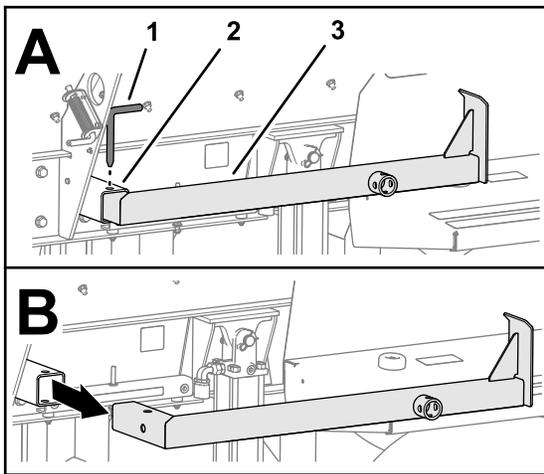

Figure 22
4. Remove the jack-leg pin from the rear-jack leg, and remove the jack leg from the leg tube (Figure 22).